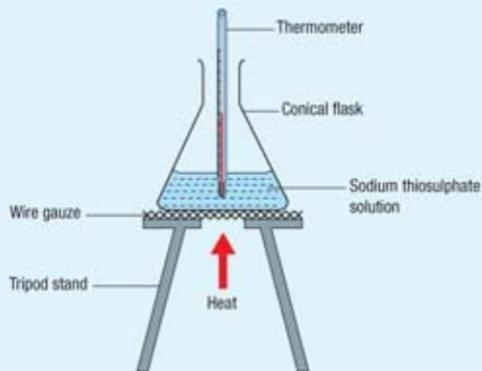

Figure 4.12
9. Repeat steps 1 to 8 by replacing the sodium thiosulphate solution at room temperature with sodium thiosulphate solution heated to 35°C, 40°C, 45°C and 50°C (Figure 4.12).